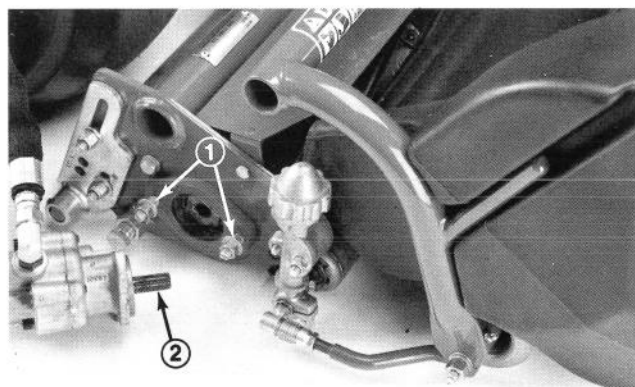

Figure 7
3. Assemble the mount nuts for the reel drive motor to each cutting unit. Leave approximately 1/2 in. (13 mm) of threads exposed on each mount stud (Fig. 7).
4. Remove the protective covers from the cutting units and the reel drive motor shafts. Coat the spline shaft of the motor with clean grease and install the motor by rotating the motor clockwise so the motor flanges clear the studs. Rotate the motor counter-clockwise until the flanges are encircling the studs and tighten the mounting nuts (Fig. 7).